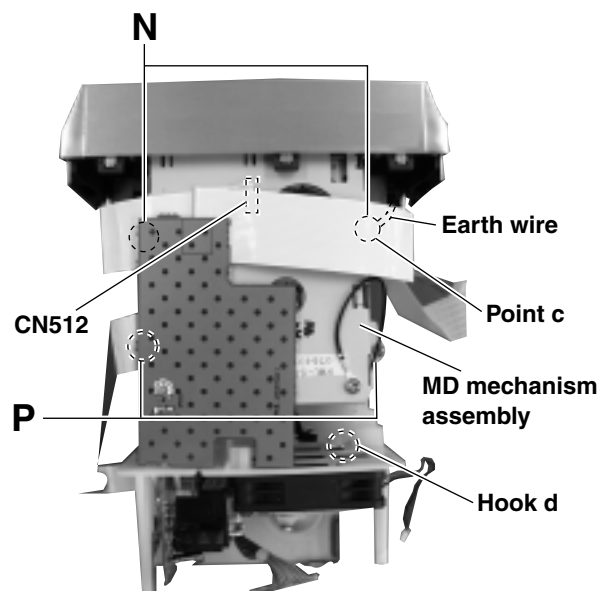

Fig.9
■ Removing the MD mechanism assembly (See Fig.9)